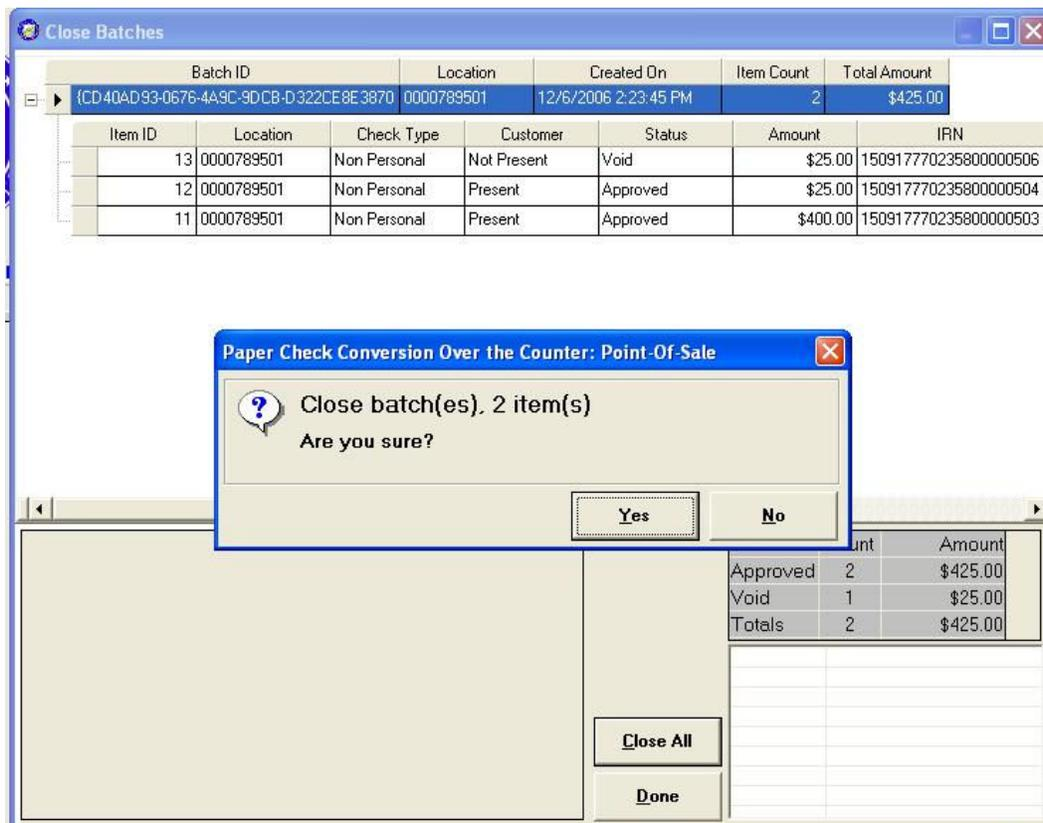

Figure 6.64
3. Click the **'Close All'** button at the bottom of the window to close the batch. The following prompt appears: (Figure 6.64). The count in the window does not include the voided item.